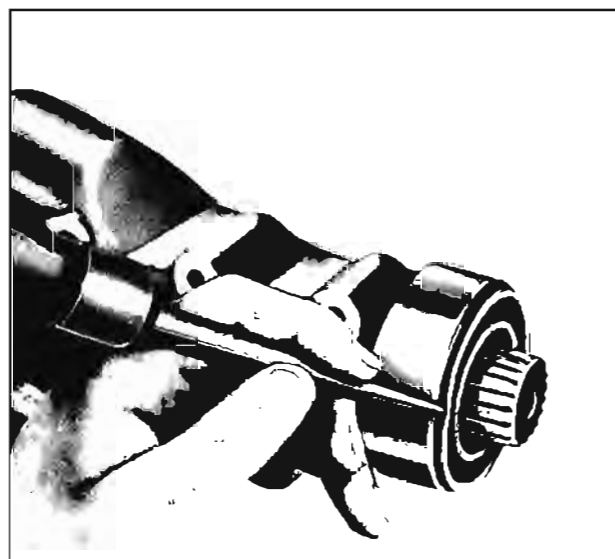

Fig. 11-210 Removing Rear Oil Seal
5. Using a punch or other suitable tool, loosen seal and remove from extension housing. (Fig. 11-210)